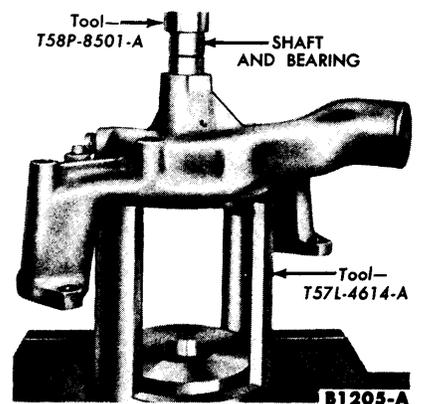

FIG. 7—Shaft Installation
4. Coat the bearing outer diameter lightly with grease. Press the shaft and bearing into the pump housing (Fig. 7).